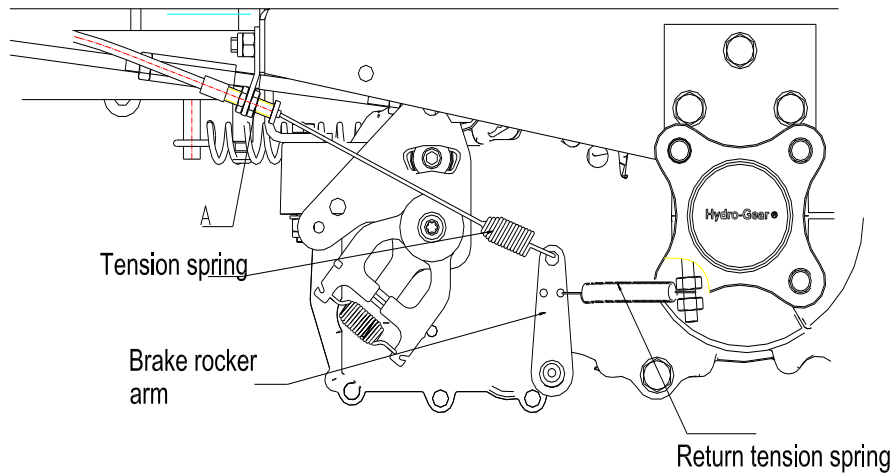

FIG 9 Brake Adjustment
- b) (See FIG 9) Because the spring force is calculated well, this way of parking brake don't need to adjust basically. If you need fine-tuning, loosen nut to adjust at A point.